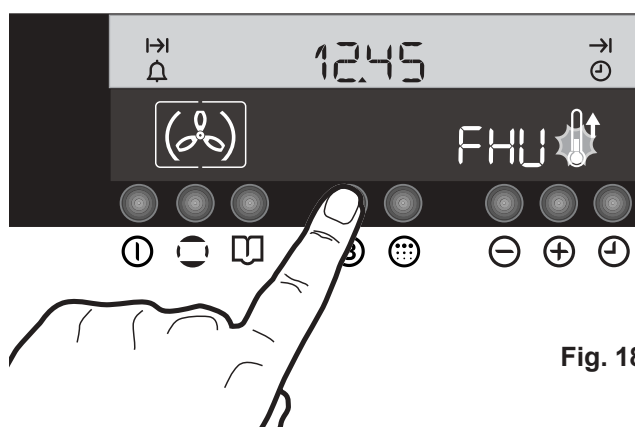

Fig. 18
1. Switch the oven on by pressing the "ON/OFF" button ①.
3. Set the temperature by pressing button ④ or ⑤.
4. Press the "Fast Heat Up Function" button ⑥. The temperature display shows "FHU" (Fig. 18).